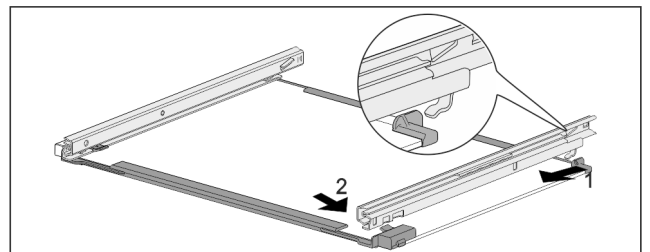

Fig. 248 Glass shelf with rails
- ▶ Hook in rail at the back. Fig. 248 (1)
- ▶ Hook in rail at the front. Fig. 248 (2)